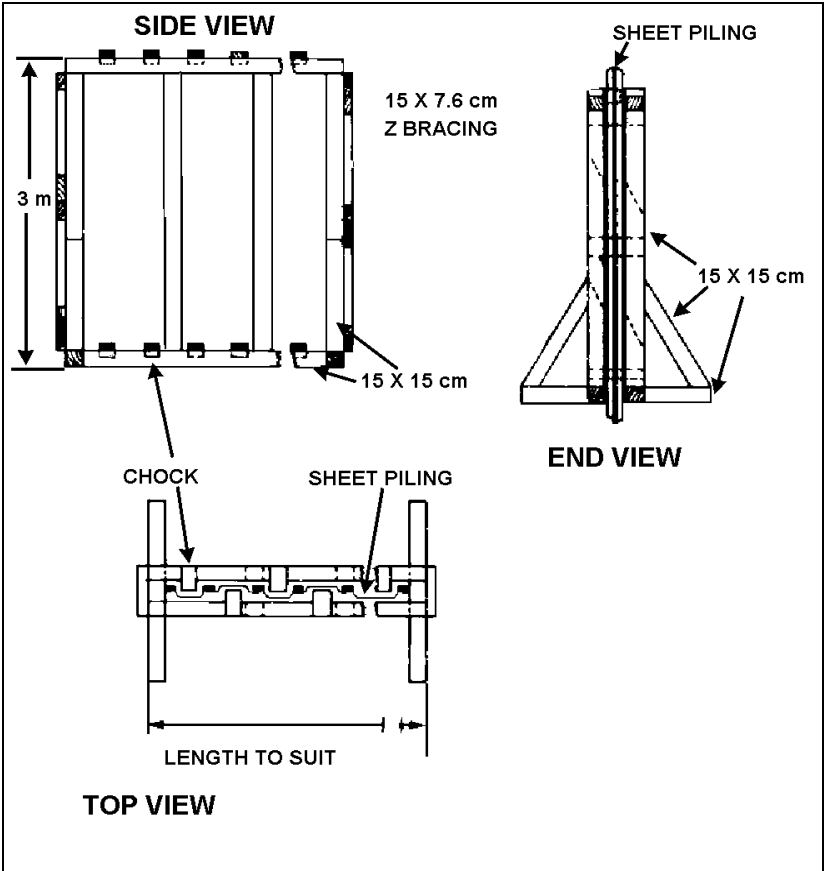

Fig 14-3-3 Waling Frame for 9 m Sheet Piling
15. Guide walings are necessary when positioning the piles. If a pile frame (leads) is being used, guide walings are only necessary at ground level. If a double acting steam hammer suspended from a crane is providing the power, upper guide walings are required between 3 and 6 m above ground level depending on the length of piles. Fig 14-3-3 shows a typical waling frame for a 9 m steel sheet pile.